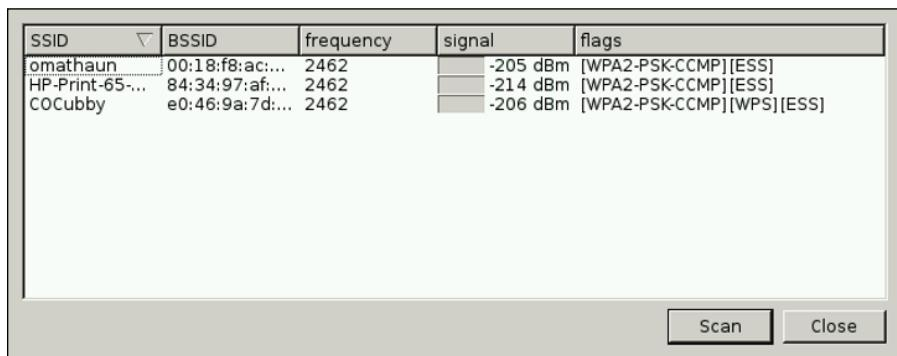

FIGURE 7-27: The Scan window
- Click the Scan button. The supplicant scans for available APs and displays a list in a new window. See Figure 7-27.